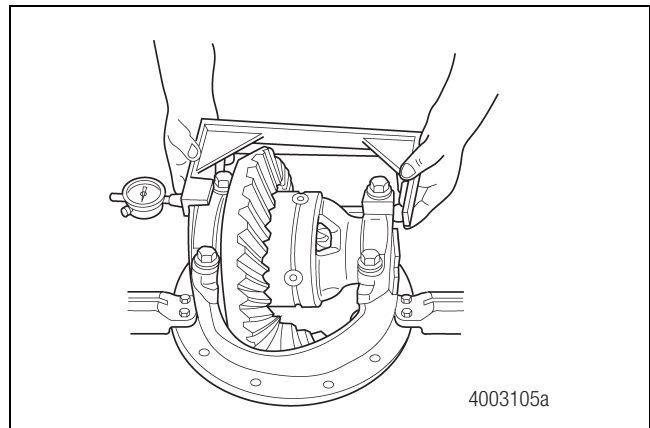

Figure 4.24
1. Use a micrometer to measure the unloaded distance between the bearing caps. Figure 4.24.